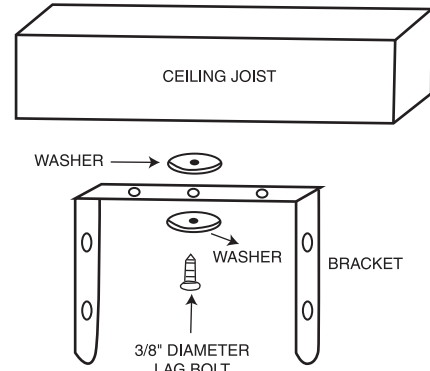

Figure 4a - Single- Screw Mounting
- Refer to Figure 4a and 4b.
- Turning the unit** -If the unit has been installed with a single lag bolt, as shown in the figure 4a, simply turn the entire unit as needed to adjust air flow.